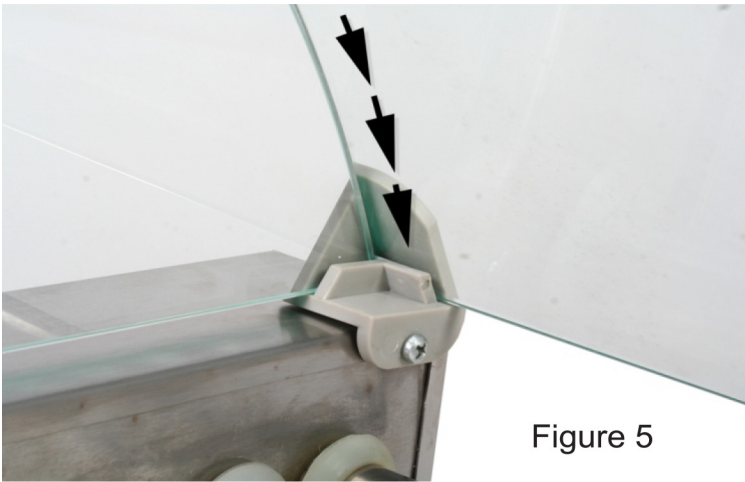
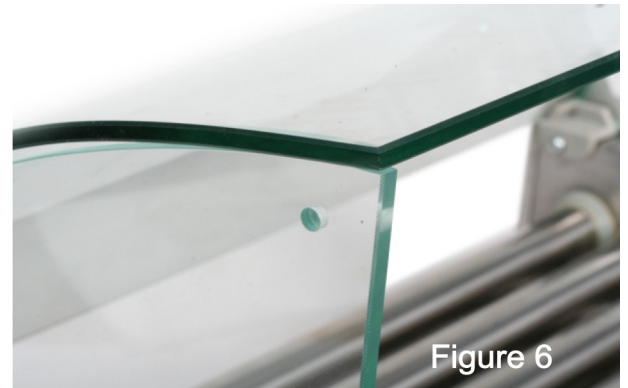

Figure 5
Figure 6
5. Slide the curved top glass (B) into the rear side glass mounts and push all the way down. See figure 5. Ensure the edge of the curved top glass and the edge of the side glass are flush. See figure 6. If the glass seems too snug you may need to loosen one of the screws holding the rear side glass mounts. Once the top glass is in place, tighten the screw back down again.